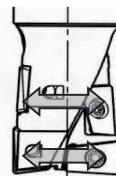

Fig.1 Side way
- ①The AQX is designed with a center cutting edge, therefore it is possible to conduct drilling, without the need of a prepared hole, through to end milling with only the need for one tool.
- ②Tool management is made easier by only employing one insert geometry. Additionally by rotating the inserts it is possible to use the inserts twice.
- ③The cutting edge diameter has been designed so that it is 1mm larger than the shank diameter, making it possible to machine vertical faces without interfering with the work piece.
- ④The body of the tool is made from a special alloy steel that has high heat resistant properties. A special surface treatment is used to increase wear and corrosion resistance.
- ⑤Coolant holes are designed into the body of the tool to improve cooling and chip disposal properties.
- ①Prior to locating the insert, ensure that the insert seat is clean. Use high pressure air or a brush to clean.
- ②When locating the insert, hold it down firmly while tightening the clamp screw with the provided wrench.
- ③To prevent the screw from seizing, use an anti-seize cream. Additionally ensure that the clamping forces are not exceeded. (Refer to Table 1.)
- ④When changing the inserts do so as shown in (Fig.1 and Fig.2). By changing the inserts in this manner the inserts can be used twice. If corner change is not carried out as shown then it will result in machining using a spent cutting edge.
- ⑤Please note that the insert sizes vary with the diameter of the endmill. Table 1 shows the suitable inserts, screws and wrenches.